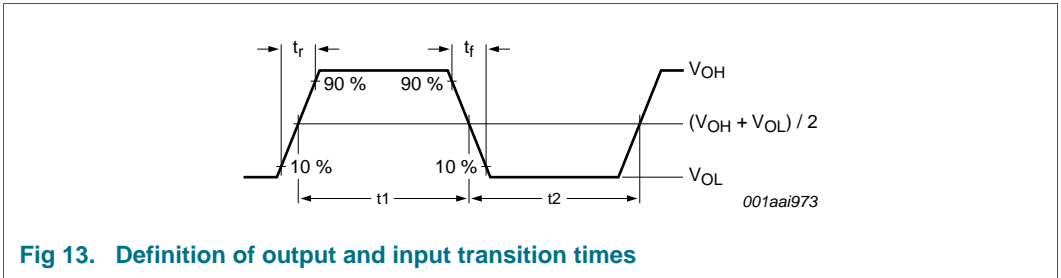

Fig 13. Definition of output and input transition times
- [5] The transition time and the duty factor definitions are shown in Figure 13 on page 20;  $\delta = t1 / (t1 + t2)$ .